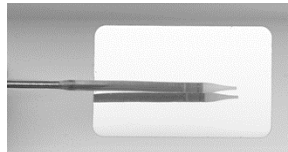

Figure 47
18. Remove the capsule guide tube from the catheter. Slightly rotate the deployment knob in the direction of the arrows to relieve stress. Ensure that the capsule does not separate from the catheter tip (Figure 47).